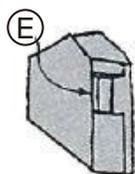

Fig. 6
- The locator should be replaced when (E) shown in Fig.6 gets damage.
(2) Procedure for the replacement of shims and locators